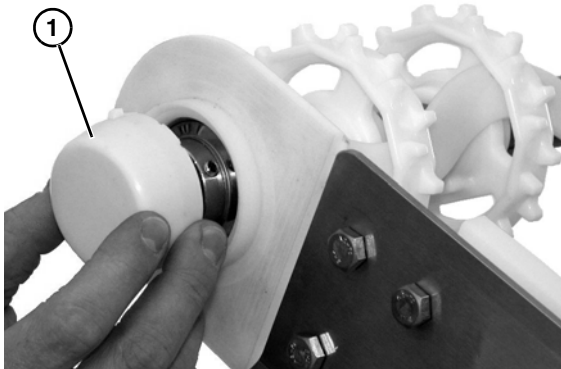

Figure 28
3. Remove bearing cover (Figure 28, item 1).